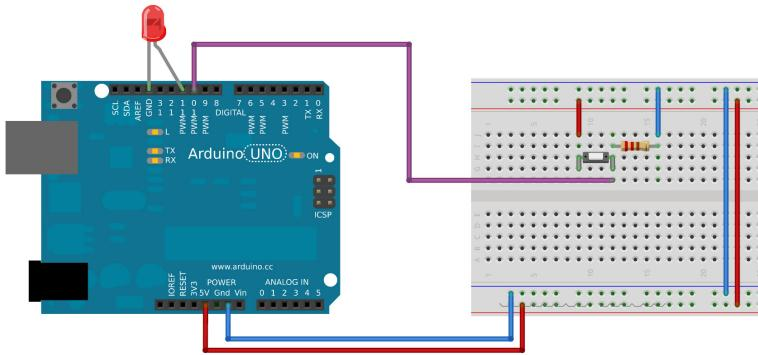

Figure 6.2: Blinking LED advanced layout
Before writing any code, try to assemble the parts as shown in Figure 6.2.
1. Place the pushbutton on your breadboard. In Figure 6.2, the two pushbutton "legs" are inserted into holes 5c and
3. In order to avoid confusion, cables on all figures are color coded. *Red* represents power cables, *blue* are connections to GND and *cyan* are connections to IO pins on the Arduino. Try to duplicate the layout of Figure 6.2.